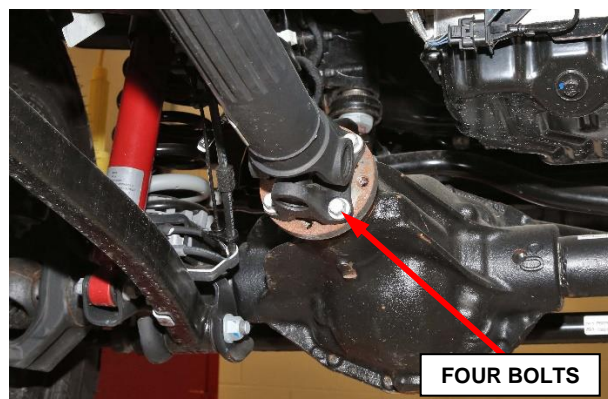

Figure 13 – Front Axle Pinion Flange
15. Remove and **DISCARD** the front axle flange to front driveshaft bolts and remove the driveshaft (Figure 13).